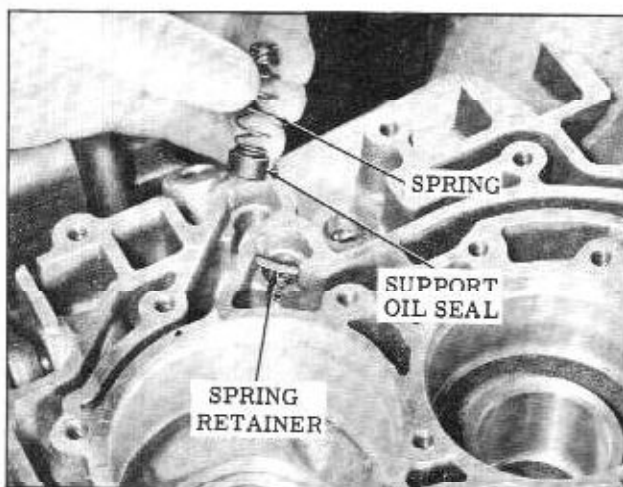

Fig. 3-118 Installing Case Support Seals
55. Install 2 case support to case seals on springs then install into case and push retainers into place. (Fig. 3-118)